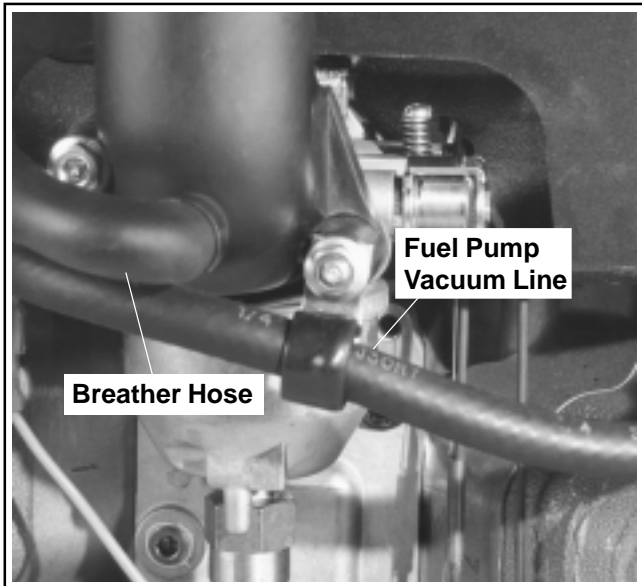

Figure 4-9. Base Plate Removal on Standard Type.
- Remove the two hex. flange nuts securing air cleaner base and mounting clamp for vacuum (fuel pump) hose onto carburetor studs. See Figure 4-9.